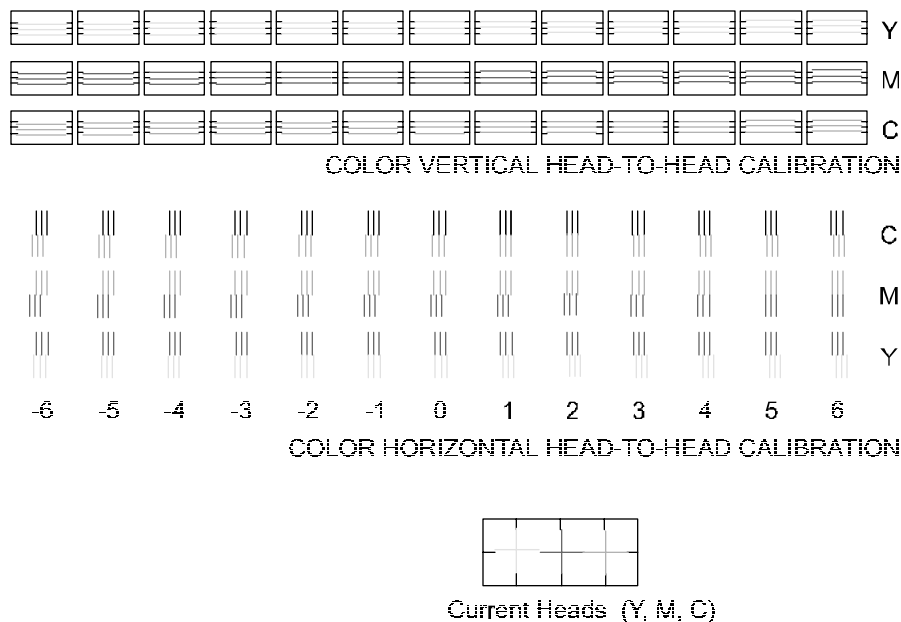

Figure 3-18. Color Calibration.
This procedure describes how to check that the cartridges are properly aligned for color plotting and should be followed each time the ink cartridges are installed. Figure 3-18 is a representation of how a color calibration looks when printed.
3. Select "Calib Print Test" to print the color calibration plot as shown in Figure 3-18.